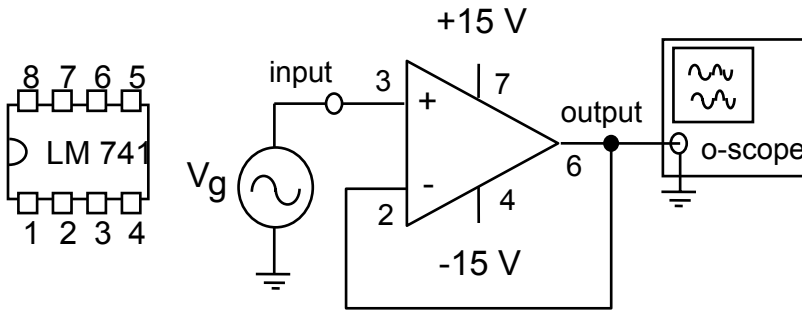
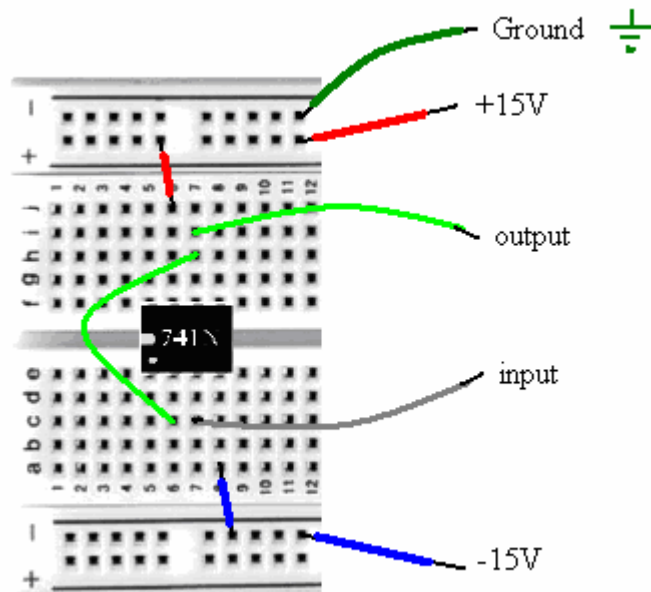

Fig 1: Op-amp IC pin diagram and test-circuit schematic
Fig. 2 Breadboard layout of fig 1
The op-amp circuits are the only type of *active* circuit that we will encounter in ECE 2A. Active circuits require an external source of energy to operate properly. Figure 1 below shows a picture of the LM741 op-amp that we will use, with the pin numbers conventionally labeled (for more detail, a copy of the LM741 data sheet is posted at the class web site). Most op-amps have the same pin configuration. Use the +/-20V outputs of your bench power supply, adjusted appropriately, for the +/- 15V sources.
(1) Using your breadboards and the lab bench power supply, construct the circuit shown in figure 1 above. This is called the *voltage follower* configuration, and is a type of *buffer* amplifier. It is often used because the high input impedance prevents excessive loading of the source generator; i.e., no current is drawn from the source, therefore no voltage drops on any internal resistance of the source. Use your alligator clip leads to connect the breadboard to the power supply terminals. Figure 2 indicates how this circuit could be laid out on your breadboard. Also remember that we want the common terminal (COM) of the power supply to be at ground potential. It will be useful if you pick a row of sockets to be used for all ground connections.